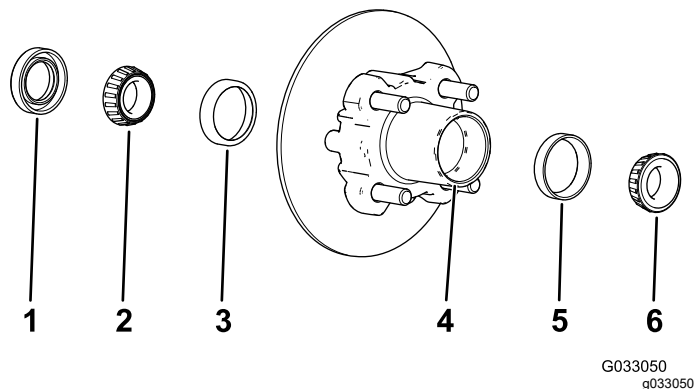

Figure 34
1. Remove the outboard bearing and bearing race from the hub (Figure 34).
2. Remove the seal, inboard bearing from the hub (Figure 34).
5. Clean the cavity of the hub of all grease, dirt, and debris (Figure 34).
7. Fill the cavity of hub 50 to 80% full of the specified grease (Figure 34).
8. Assemble the inboard bearing onto the race at the inboard side of the hub and install the seal (Figure 34).